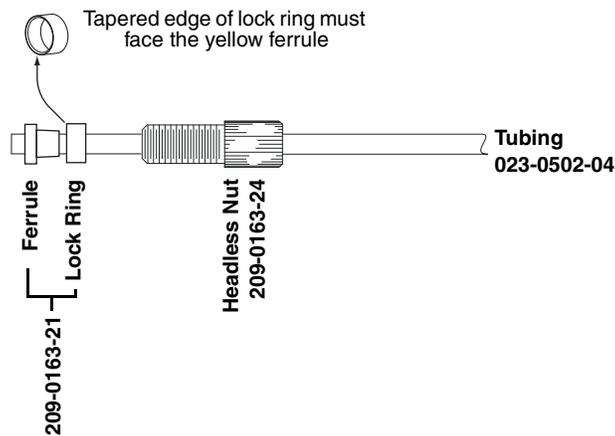

Figure 2-7 Tubing preparation
- Prepare the tubing as shown in Figure 2-7.